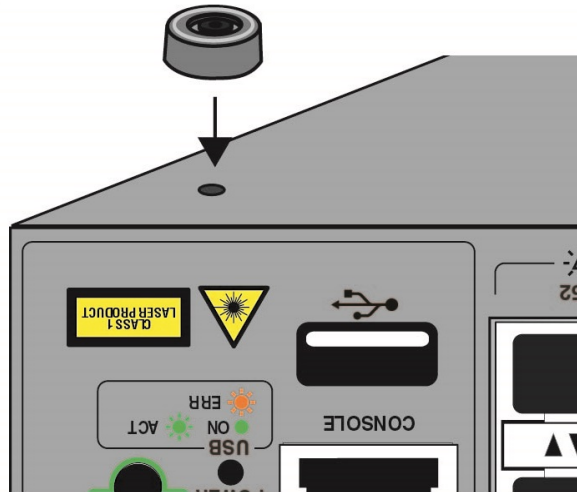

Figure 84. Placing the Bumper Foot on a Base Corner Hole
3. Place the bumper foot onto one of the holes in the base of the switch. Refer to Figure 84.